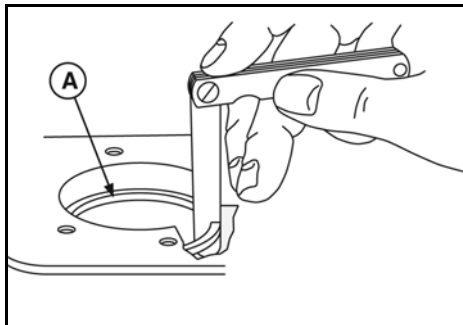

Figure 5
2. Insert an original ring (A, Figure 5) approximately one inch down into the cylinder bore.